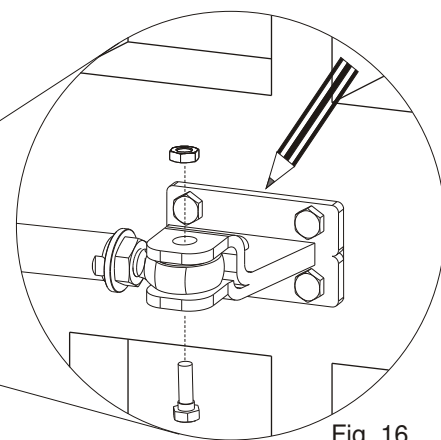

Fig. 16
3. Attach the shaft to the front bracket (Fig. 16)